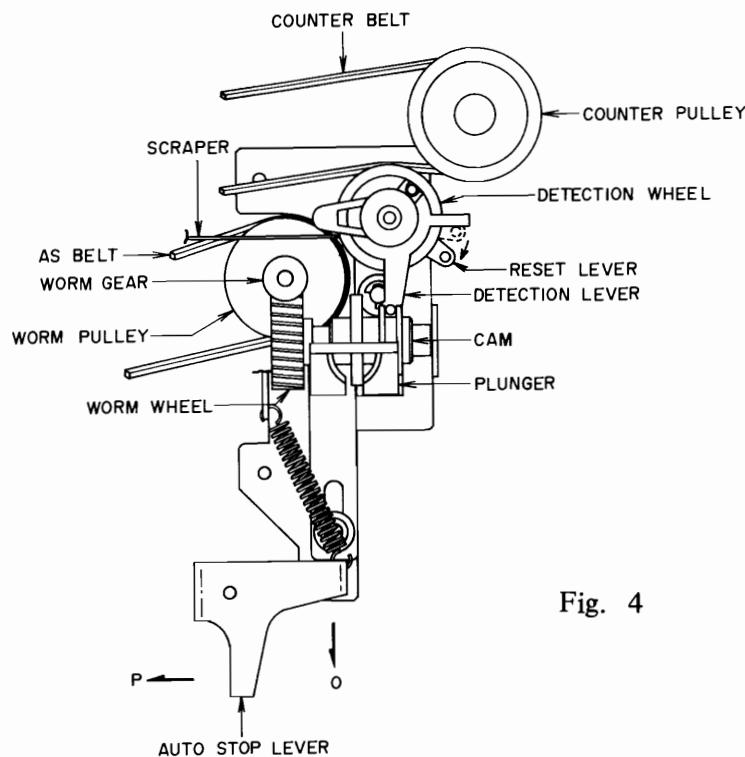

Fig. 4
- At the same time, the lever functioning in combination with the depressed key allows the reset lever to move downward as illustrated in Fig. 4.
- When the motor starts rotating, the worm pulley is driven by the AS belt as shown in Fig. 4, thereby rotating the worm gear to turn the cam. On the other hand, the counter belt permits the detection wheel to rotate.
- 6) Shifted in a downward direction, the plunger removes the auto stop lever in the direction of P as indicated in Fig. 4 to release the Play mode and to thus set the tape deck to the Stop mode.
- 5) Shifted in a downward direction, the plunger removes the auto stop lever in the direction of P as indicated in Fig. 4 to release the Rewind mode and to thus set the tape deck to the Stop mode.